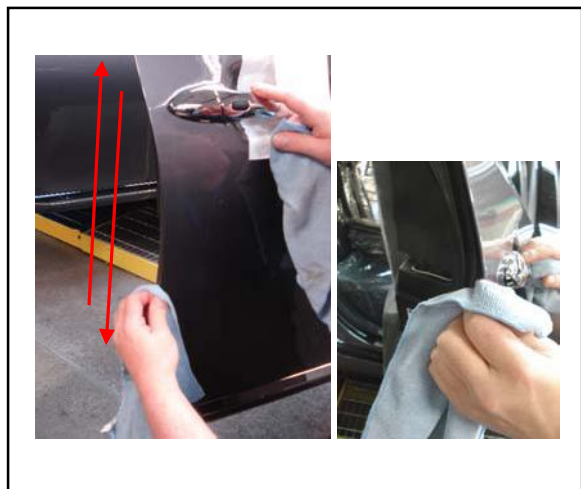

Fig. 1-11
- ii. Using the second lint free cloth, thoroughly dry the area free of Simple Green cleaner previously applied. In some instances a rubber weather seal may be found – ensure to clean between the trailing edge and rubber seal. (Fig. 1-11) Turn the cloth repeatedly to attain a dry surface.